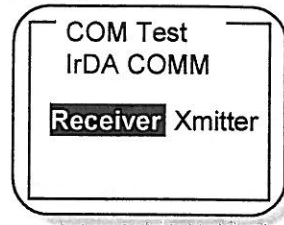

Fig. 4-6
- 1) When "IrDA COMM" is selected, the COM Test screen (Fig. 4-6) be displayed.